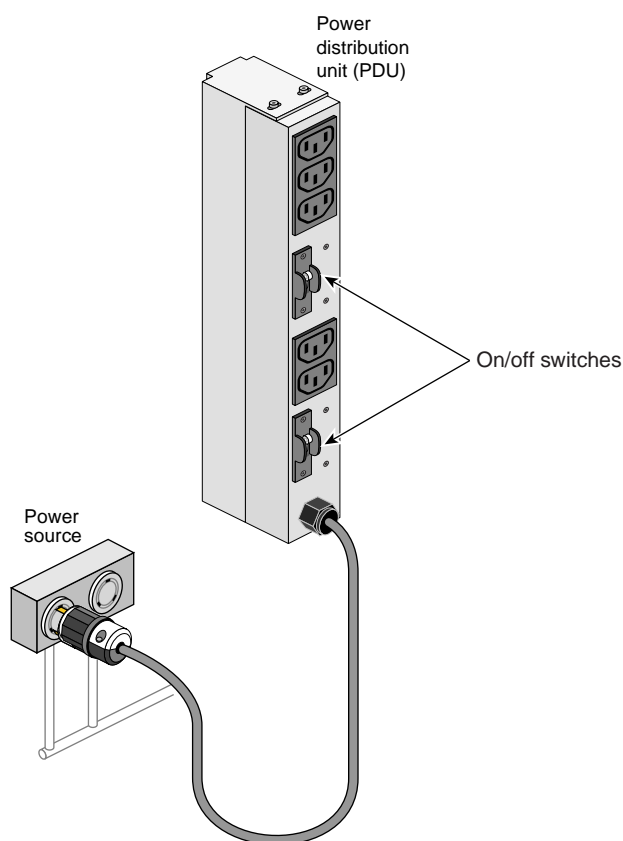

Figure 1-20 PDU Circuit Breakers Example
3. Turn on the on/off circuit breaker switches of the PDU as shown in Figure 1-20.
2. Turn the circuit breaker switches of the PDU to the on position, see Figure 1-20 on page 39.